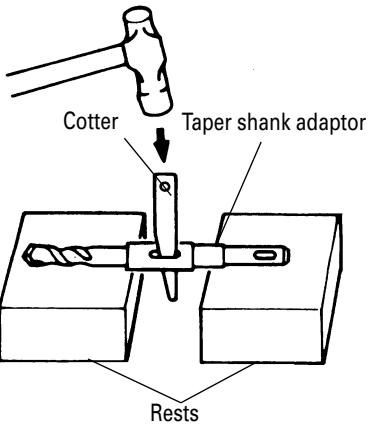

Fig. 25
- (3) Turn the switch ON, and drill a hole in prescribed depth.
(4) To remove the drill bit (taper shank), insert the cotter into the slot of the taper shank adaptor and strike the head of the cotter with a hammer supporting on the rests. (Fig. 25)